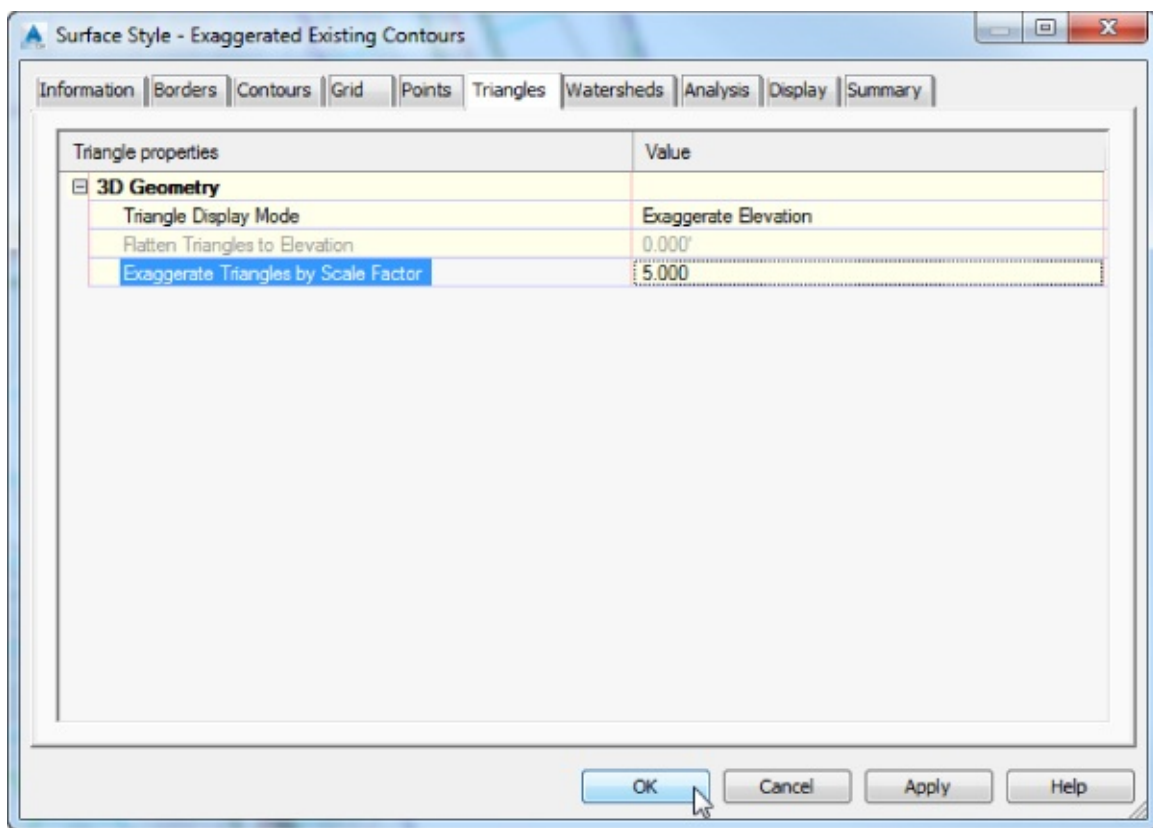

Figure 19.24 Exaggerate the elevations shown in the Object Viewer.
- b. Set Exaggerate Triangles By Scale Factor to 5 (see Figure 19.24).